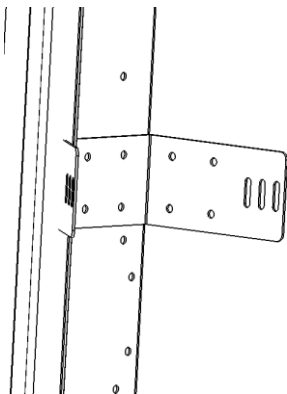

Figure 18. Attaching Counterweight Tube Brackets.
11. Attach the DR4709 Counterweight Tube Brackets to the Mounting Rails using the supplied CP2189 tek screws (**SEE FIGURE 18**). There are 3 brackets per side, place one bracket near the floor, one towards the top and the other equal distant between the two.